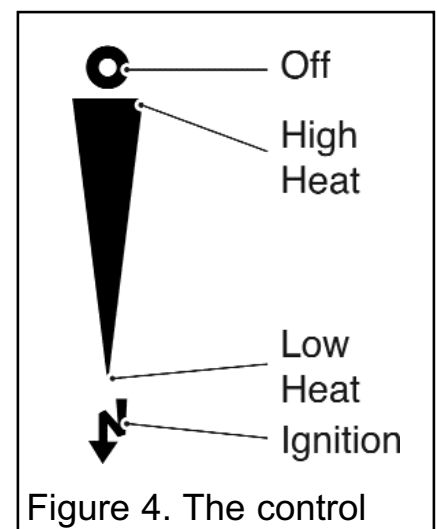

Figure 4. The control
The slide control is shown in figure 4.
**3.** If low heat is required, release the control knob. The control knob will automatically spring up to the low heat position shown in figure 4 (See note i below). If for any reason the slider control does not spring up, raise the slider to the off (O) position (Topmost position) and contact your installer. Do not use the fire until the problem has been rectified.
**4.** For a higher heat level slide the control knob upwards. The burner flames and heat output will gradually increase until the control knob reaches the high heat position shown in figure 4. When the control knob reaches the high heat position you will feel a check to its movement. **Do not slide the control knob above the high heat position unless you want to turn the fire off** (See note i below).